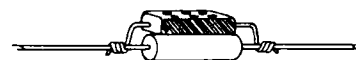

Figure 4
- () Wrap the leads of a 47 μmf silver mica capacitor (yellow-purple-black) around the leads of a 10 μmf N750 ceramic capacitor as shown in Figure 4. Solder quickly with a hot iron to prevent damage to the capacitor.
- () Connect the 10 μmf N750 ceramic capacitor from terminal B on the 160 M coil (S) to the top solder lug on the 1 1/8" spacer (NS).
- () Connect the 4.7 μmf N750 ceramic capacitor from terminal C on the 40 M coil (S) to the top solder lug on the 1 1/8" spacer (NS).
- () Connect a 22 K Ω 1/2 watt resistor (red-red-orange) from the top solder lug on the spacer (NS) to terminal D of the 160 M coil (NS).
- () Connect a 2.2 K Ω 1/2 watt resistor (red-red-red) from the top solder lug on the 1 1/8" spacer (S) to terminal E of the 40 M coil (NS).